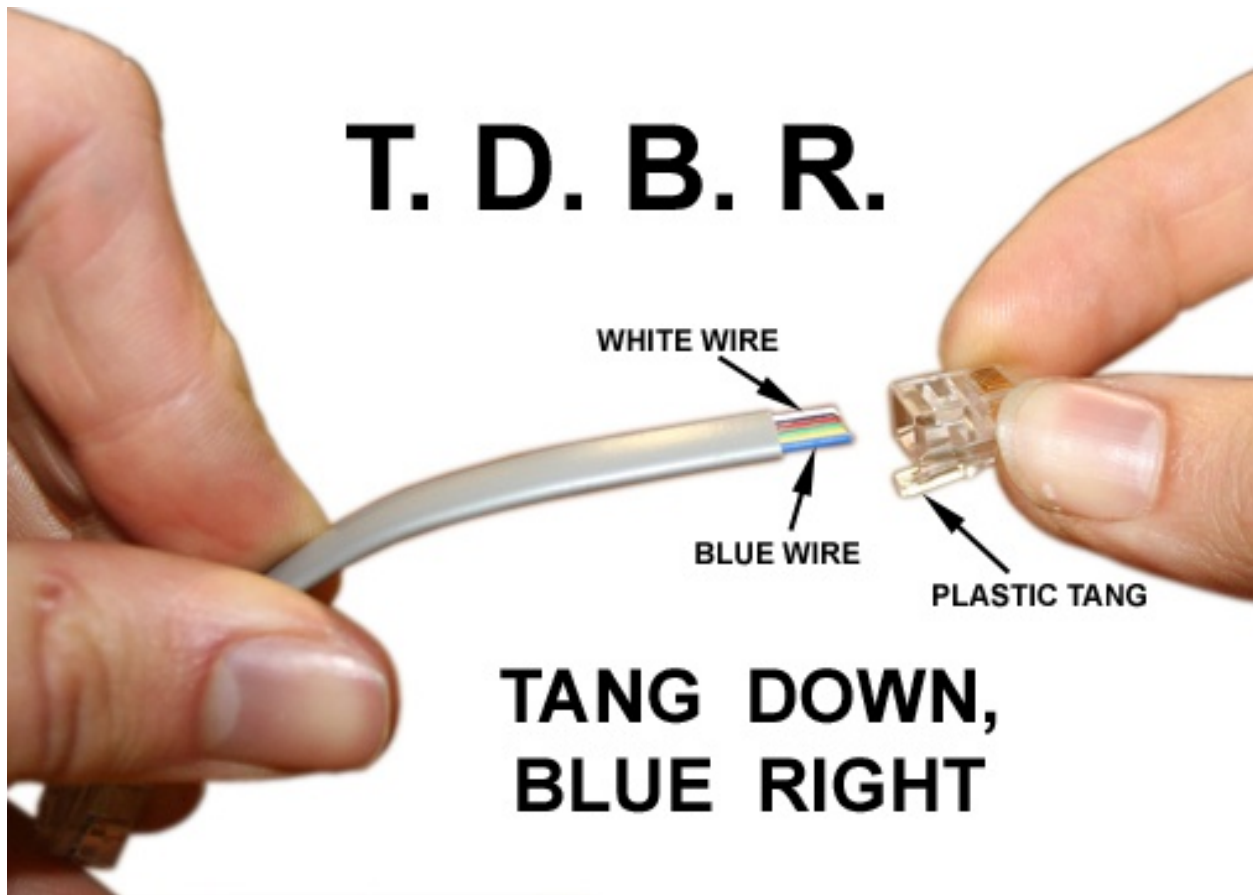

figure 06
cable in order to avoid errors from broken internal wires. Additionally, follow the proper cable construction techniques listed below and make sure that all the wires are installed in the correct orientation. (See figure 06)
Step 5: Now take an un-crimped plug-end in your right hand and with the tang oriented on the bottom side, slide the outward facing end of the flat RJ cable into the slot in the un-crimped plug. Make sure it is not crooked and push it all the way into the un-crimped plug. (see figure 06)